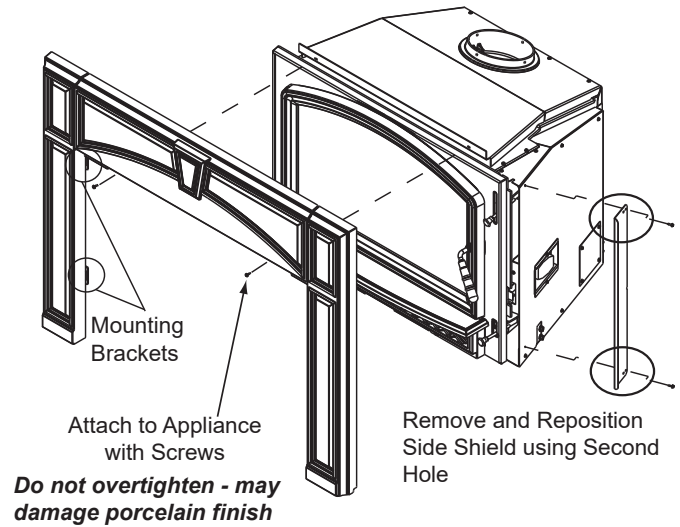

Figure 22.2
5. In order to get a tight seal for the surround, you must reposition a side shield. There are two holes on the shield and it will come from the factory secured in the first (left) hole. Remove the shield and re-install using the second (right) hole (**Figure 22.2**).